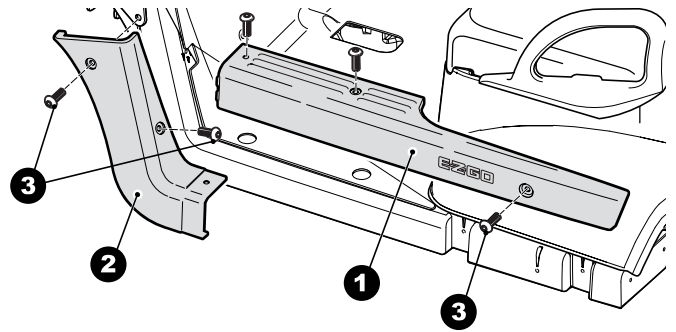

Figure 1
3. Remove the lower rocker panel (1) by removing three Torx screws (3).
4. Remove the upper rocker panel (2) by removing the two remaining Torx screws (3). See figure 1 for steps 3 - 4.